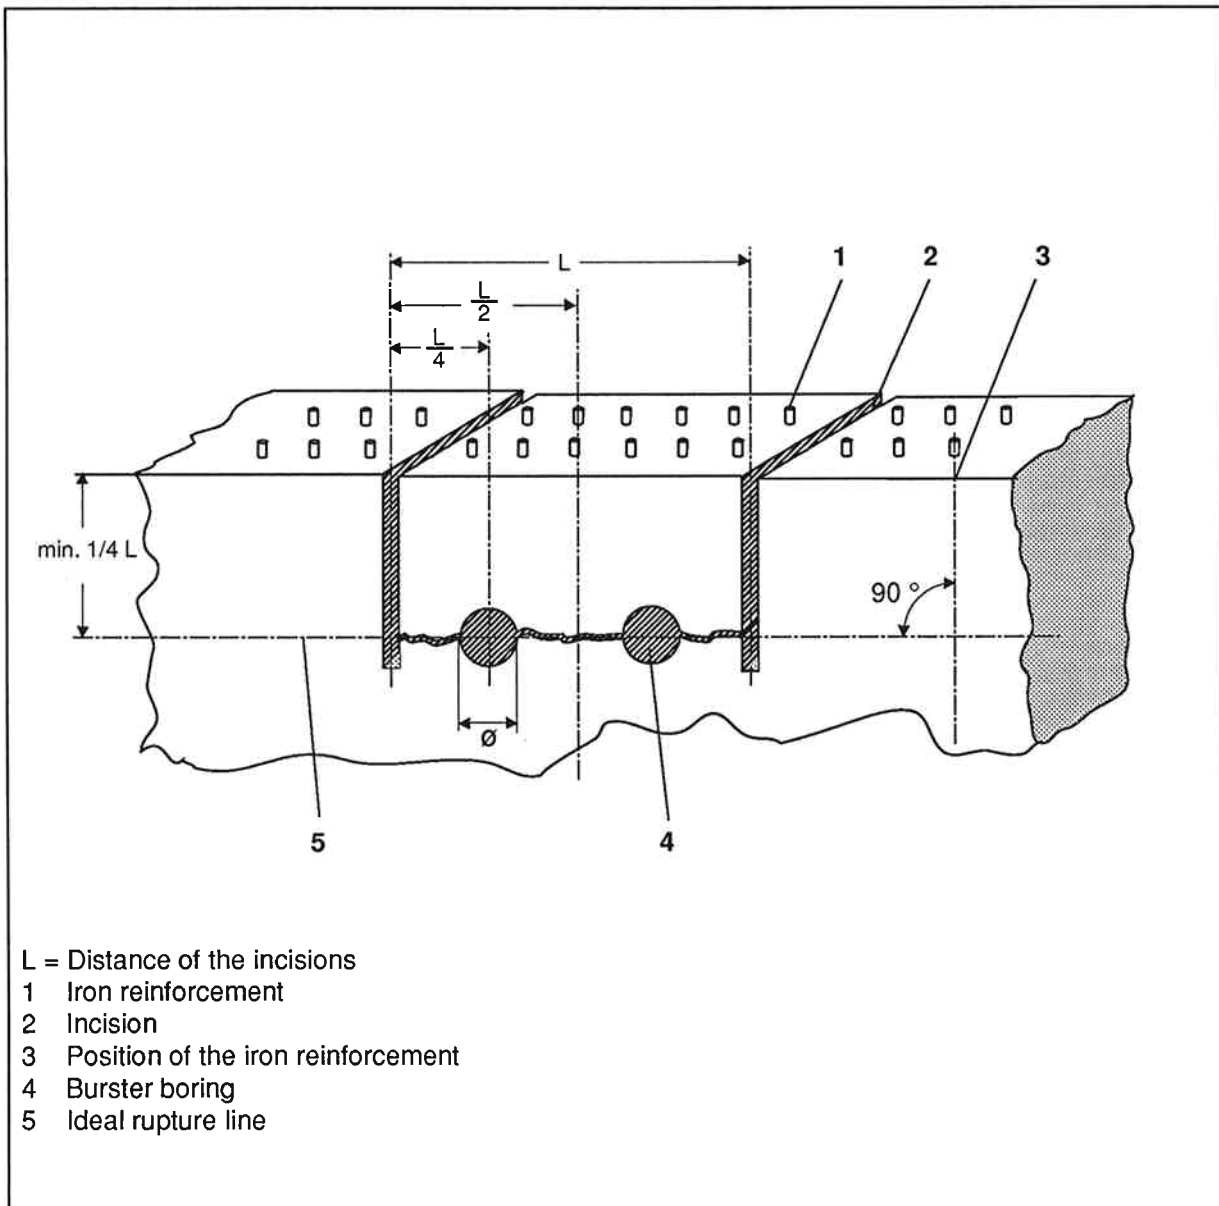
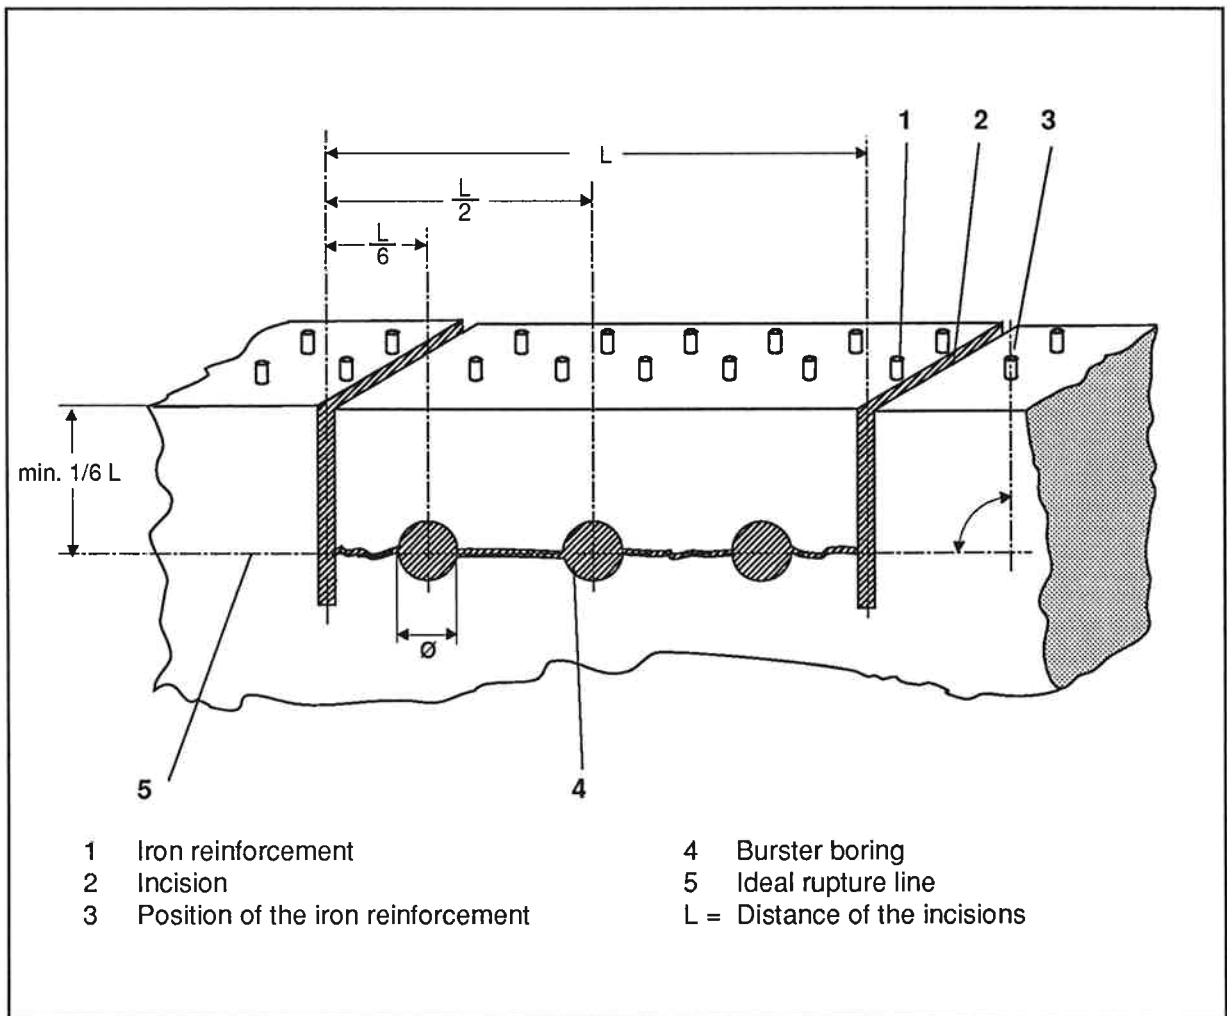

Fig. 5-3 Burster Borings for Two Buster Elements
Fig. 5-4 Burster Borings for Three Burster Elements
3. The best position of the burster borings is shown in Fig. 5-3 for two, and in Fig. 5-4 for 3 burster elements.
4. The borings must have a depth which allows the complete insertion of the burster elements into the borings (Fig. 5-4).